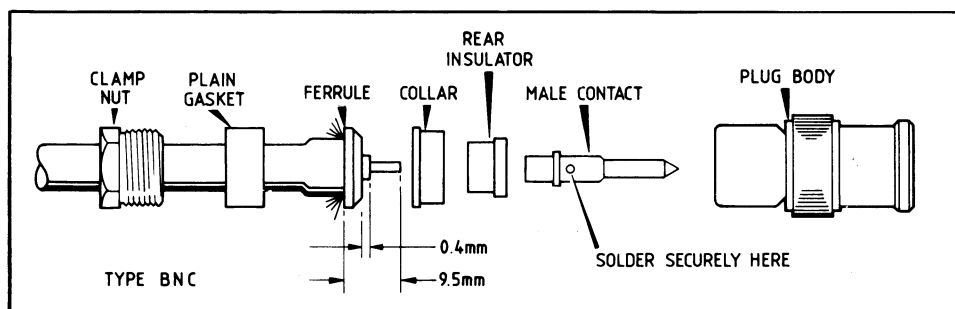

Fig 2.4 Antenna Feeder Plug Assembly
3. Connect the antenna feeder plug provided, to the antenna feeder as shown in Fig 2.4